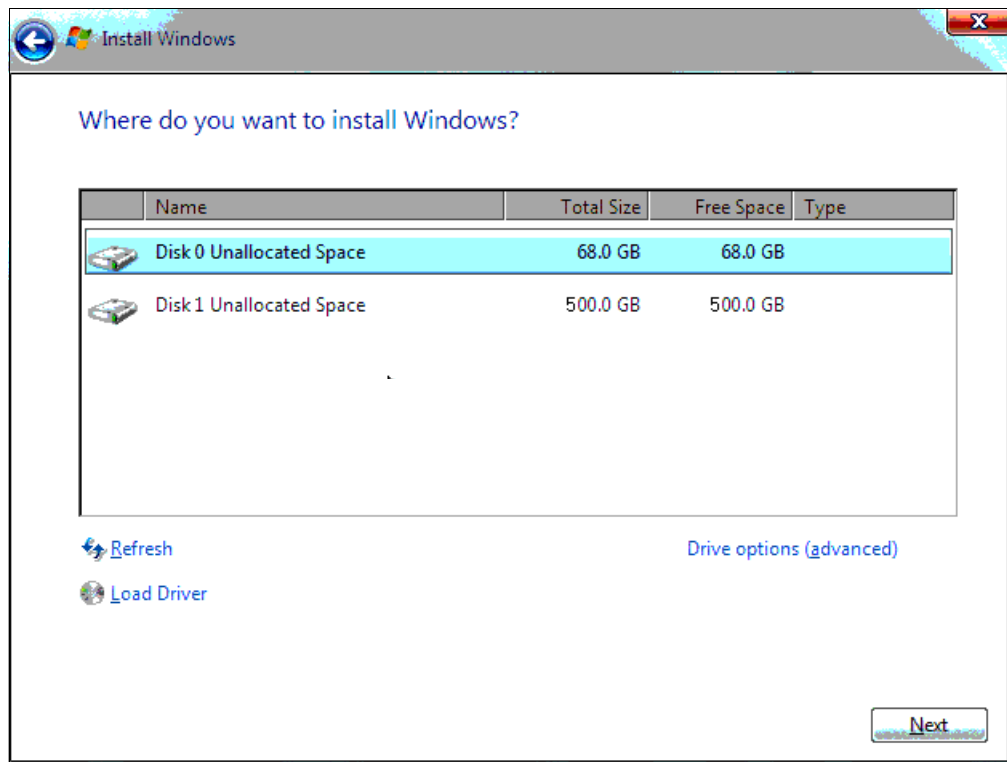

Figure 6-4 Selecting disk for Windows installation
8. On the “Where do you want to install Windows?” panel (Figure 6-4 on page 140), select the partition where the Windows Server 2008 will be installed. A system partition of at least 50 GB is suggested.